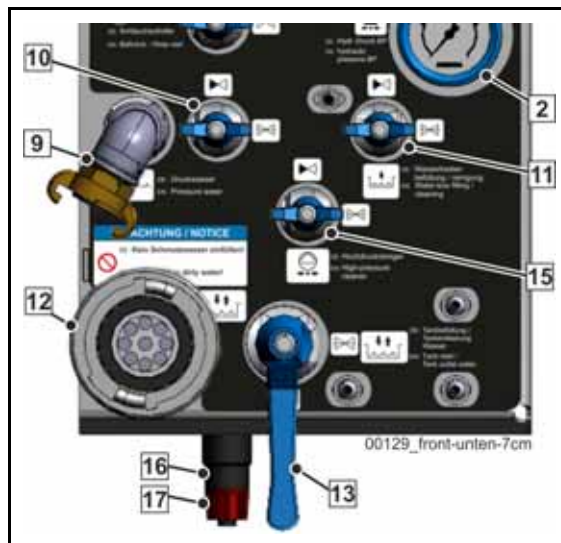

Fig. 437 Supply control
- Open the ball valve (4) (**Fig. 437**) and the turn-lock fastener (6) (**Fig. 437**) on the supply unit.
- After draining the pump, close the ball valve (15) (**Fig. 437**) and the turn-lock fastener (17) (**Fig. 437**) on the supply unit.